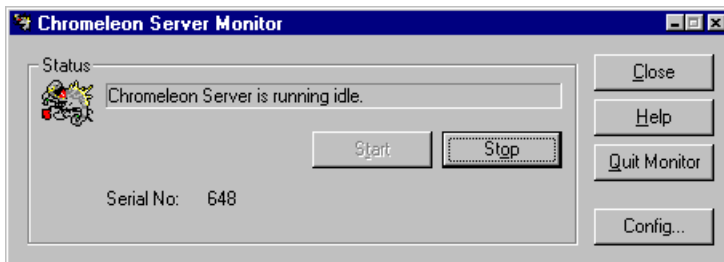

Figure 6. Server Running
6. Check the Server Monitor status. It should now display “Chromeleon Server is running idle.” (see Figure 6).